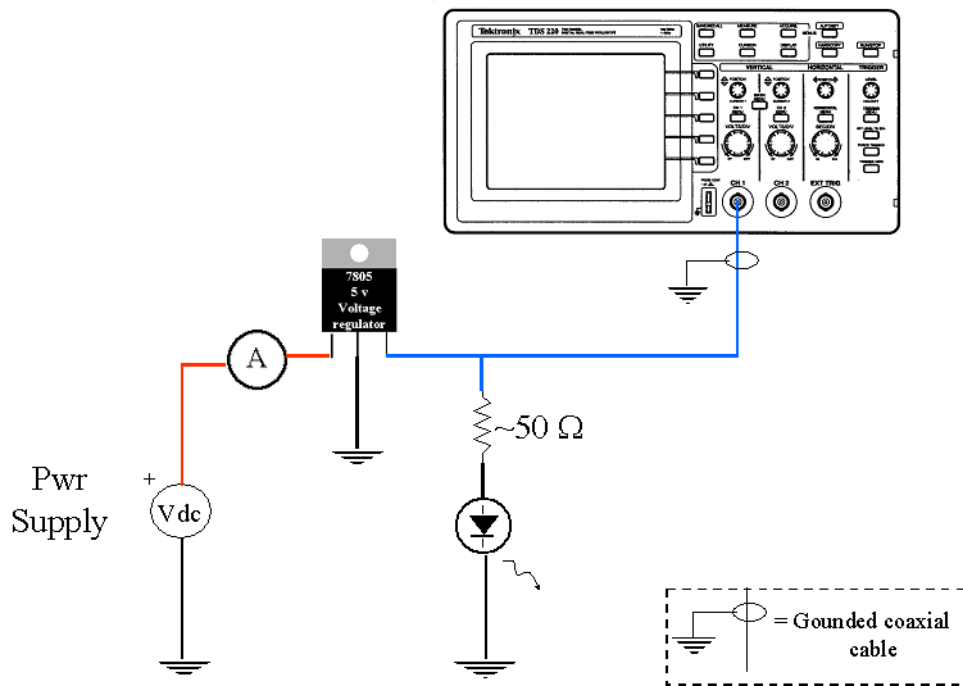

Figure 2.3.20: Voltage regulator circuit.
**Voltage Regulator exercise.** Build the circuit in Figure 2.3.20. This circuit protects the LED by limiting the voltage from the variable power source. Build this circuit and slowly increase the voltage up to the full capability of the power supply, while watching the oscilloscope. You should see that after the 7805 reaches biasing voltage ( $\sim 7$  VDC) the LED intensity stops increasing because the voltage to the LED is set at 5 VDC by the voltage regulator, and the current is limited by the resistor. **Demonstrate your working voltage regulator to an instructor before continuing.**